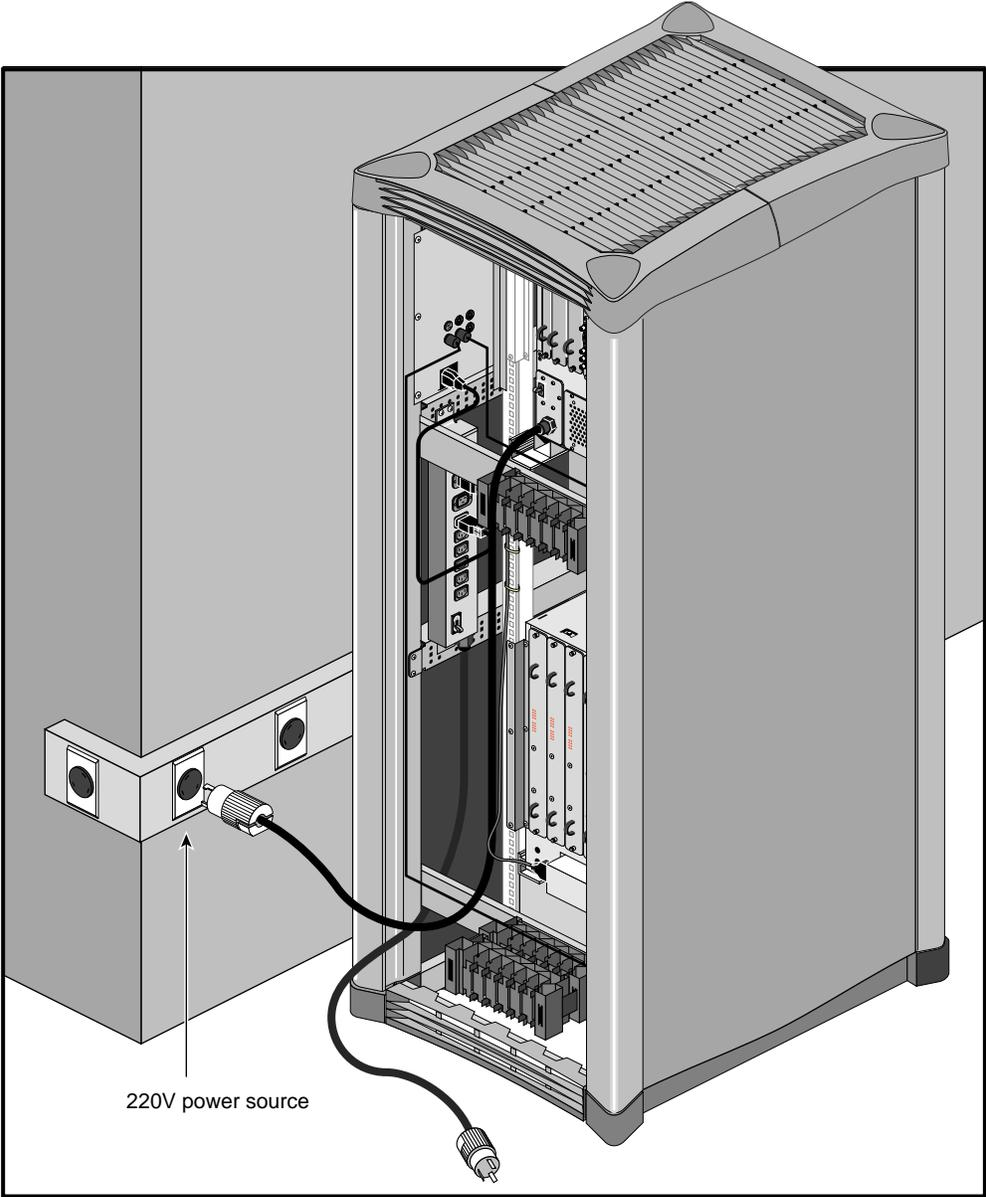

Figure 4-2 Connecting a Graphics Module Power Cable
2. Connect the power cable of each graphics module to a 220-240 VAC wall receptacle (see Figure 4-2).